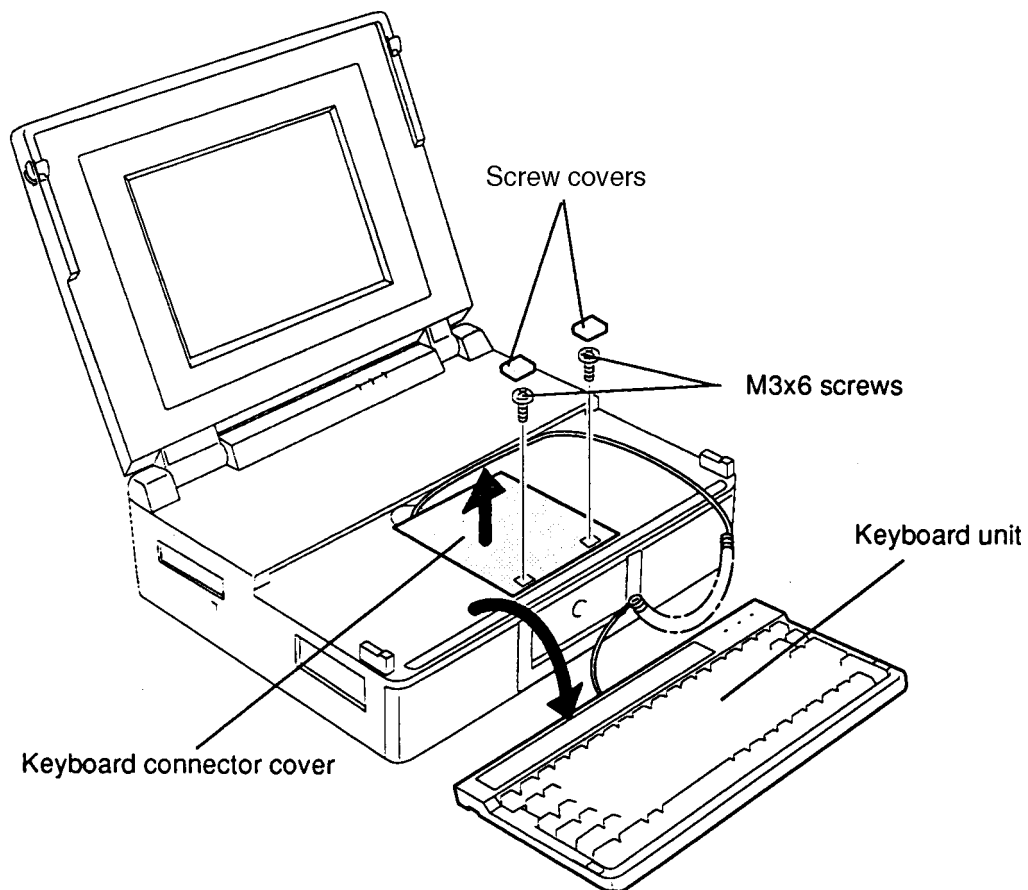

Figure 4-5 Removing the Keyboard Connector Cover
To remove the keyboard unit from the T6600C, follow the steps below and refer to Figures 4-5 and 4-6.
4. Lift out the **keyboard unit** and place it in front of the computer (Figure 4-5).
5. Remove the **two screw covers**, then remove the **two M3x6 screws** (Figure 4-5).
6. Lift off the **keyboard connector cover** (Figure 4-5).
To install the keyboard unit, follow the steps below and refer to Figures 4-5 and 4-6.
3. Set the **keyboard connector cover** in place and secure it with two **M3x6 silver screws** (Figure 4-5).
4. Press the two **screw covers** into place (Figure 4-5).